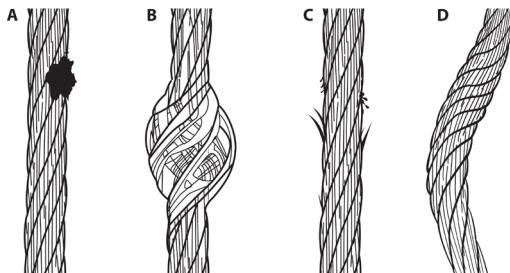

Figure 9: Inspection of Cable
Inspect the entire length of the constituent line up. Review the cable lifeline closely for broken strand wires, welding spatter burns, welding slag, bird caging, kinks and bent strands. Also examine for rust, dirt, paint, grease or oil. Check for damage caused by chemical corruption or excessive heat as evident with discoloration. See Figure 9 for examples. If any of these conditions exist, remove the SRD from service.
Extract all of the cable and check the entire working length for damage caused by chemical corrosion or excessive heat as evident by discoloration (A), bird caging (B), broken wire strands (C), kinks and bent strands (D), see Figure 9. The cable should retract completely without faltering and should remain taut under tension without sagging.